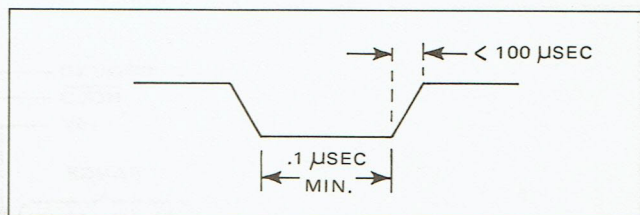

Figure 2.7 - Read Command
2.32 To externally command a new measurement cycle, it is necessary to activate the $\overline{\text{HOLD}}$ line by applying a false (ground) level to pin A13. A read command must then be generated by a true level on pin A11, DVM Command. The command occurs on the positive transition of the voltage level on this line. Specifications of the command signal are shown in figure 2.7.